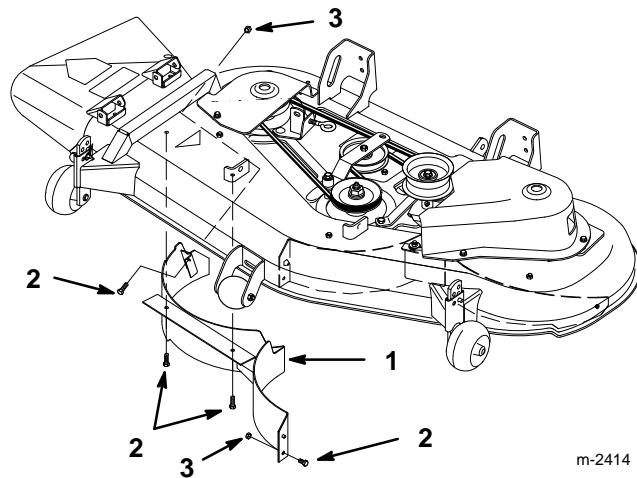

Figure 17
1. Remove lock nuts from top, discharge side and center flange of right side baffle (Fig. 17). Lower baffle and slide out discharge opening to remove.
2. Install previously removed 5/16–5/8" (16 mm) bolts and 5/16" lock nuts in open holes of mower for safety (Fig. 17).